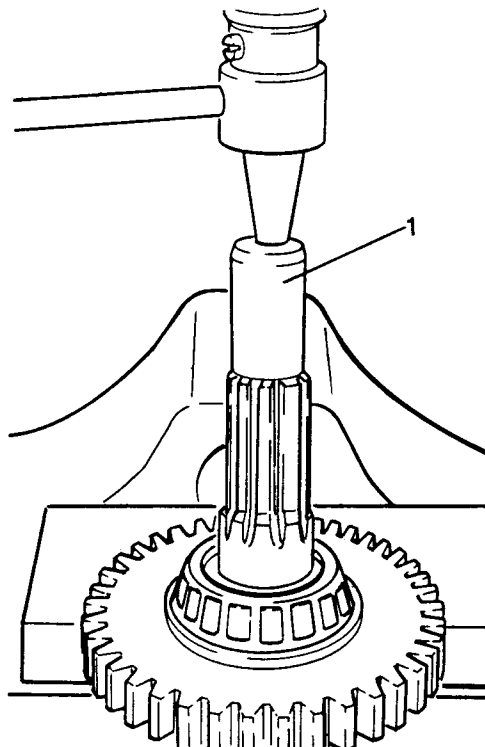

Fig H2.22
(13) Refer to Fig H2.22. Remove the rear bearing by means of a press and employing the low gear as a retaining block for the bearing (as shown).
(14) For this operation the special tool 243241 (1) must be used to protect the thread.